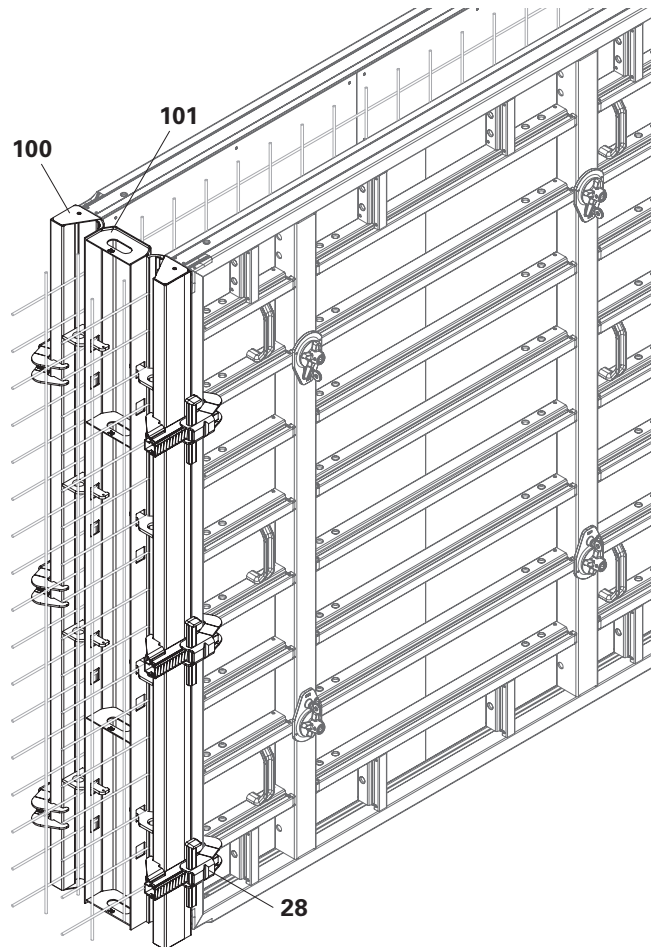

Fig. B8.05
2. Fix Stop. Panel TRIO AT (100) to the primary formwork by means of the Alignment Coupler BFD (28).
4. Position Stop. Panel TRIO MT (101).
6. Fix Stop. Panel TRIO AT (100) to the closing formwork by means of the Alignment Coupler BFD (28).
7. Position the closing formwork and in doing so insert Stop. Panel TRIO AT (100) into Stop. Panel TRIO MT (101).
- (Fig. B8.05)